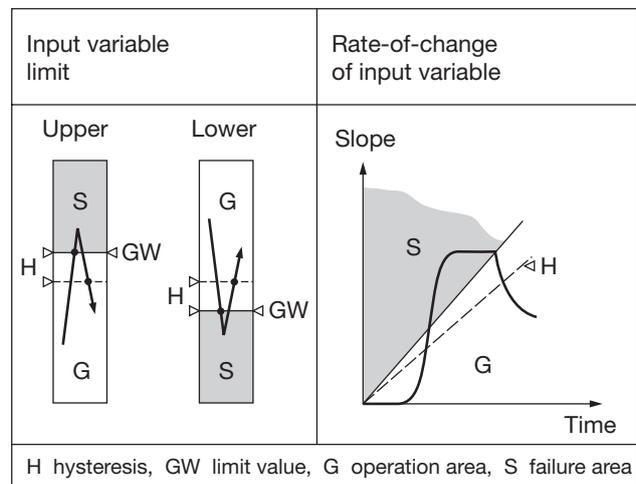

Fig. 3
- for monitoring the input variable in relation to a lower or upper limit between -10 and + 110%2 (see left side of Fig. 3)
between ± 1 and ± 50%2/s (see right side of Fig. 3)